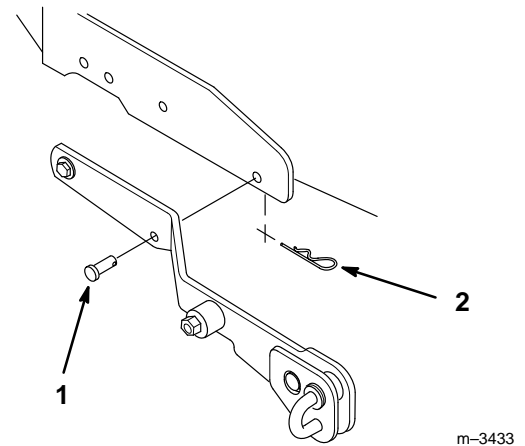

Figure 9
4. Install clevis pins into each side of the lift assembly in the positions shown in Figure 9.